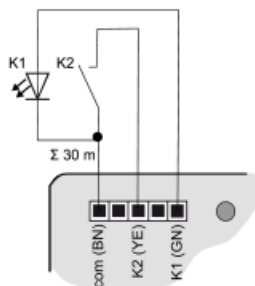
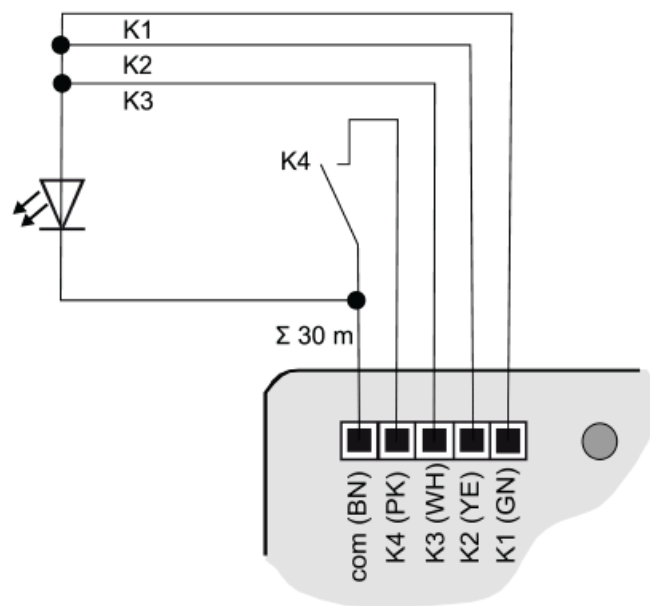

Figure 3: Connection example: push-button interface 2-gang
Figure 7: Connection example with outputs switched in parallel
Connect push-buttons, switches, contacts, LED or NTC to enclosed connecting cables (4) according to the connection examples; (see figure 3) to (see figure 7). The connection examples show the use of inputs and outputs.
To increase the output current, outputs can also be switched parallel to each other with the same parameterization; in the example here, (see figure 7) K1-K3 are switched in parallel.